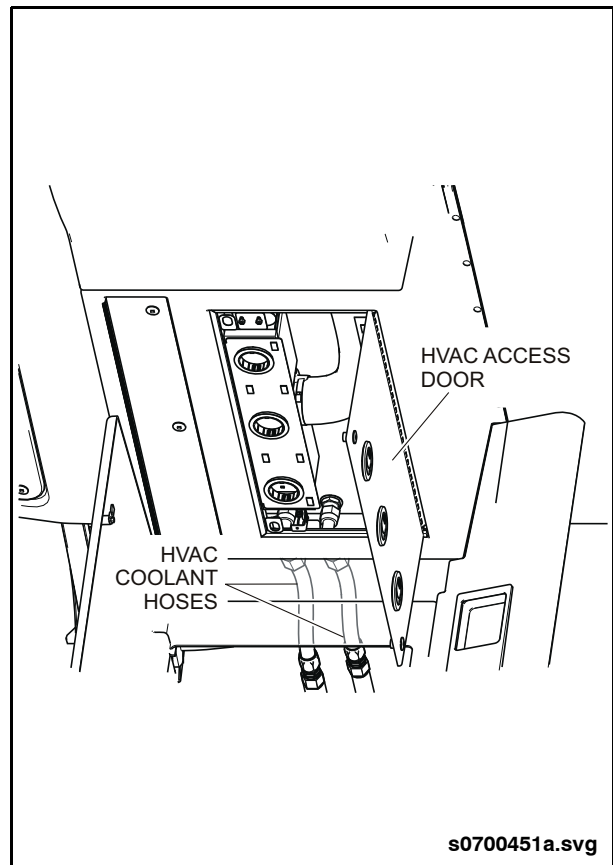

Fig. 2: Coolant Hoses Access
2. Open the center aisle HVAC access door and locate the opposite ends of the two coolant hoses. See “Fig. 2: Coolant Hoses Access” on page 2.